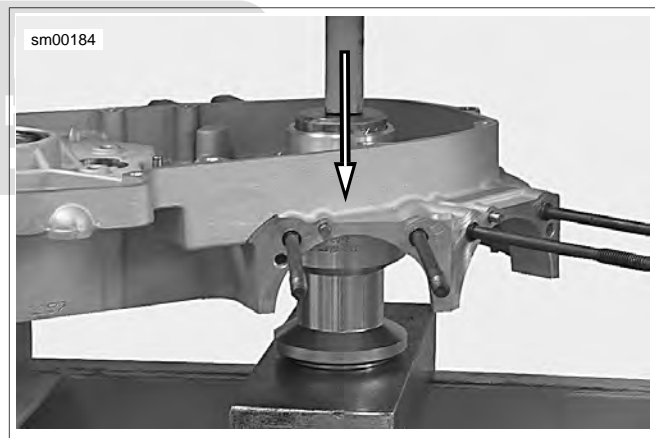

Figure 3-124. Direction of Bearing Removal From Left Crankcase
- See Figure 3-124. Using CRANKCASE BEARING REMOVER/INSTALLER WITH ADAPTER (Part No. B-45655, HD-42720-2 and HD-46663) press sprocket shaft bearing out of the left crankcase half.